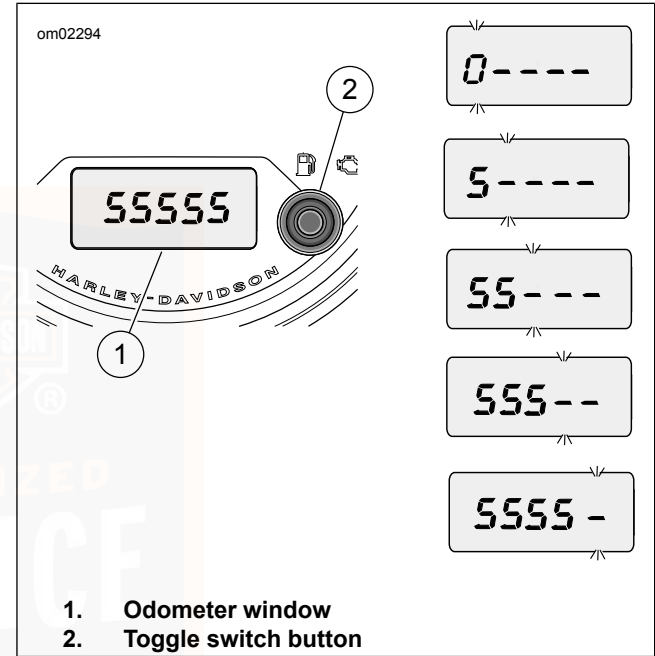

Figure 17. Inputting the PIN (Sample PIN Shown)
1. See Figure 17. While the security indicator lamp is flashing, turn the ignition switch to IGNITION. The odometer window displays ENTER PIN.